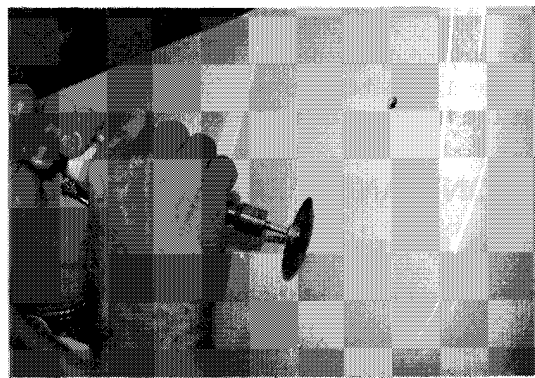

Figure 5-2
2. If damaged area has ragged edges, cut or grind away all loose material. Undercut perimeter of gouge or hole to promote adhesion (Figure 5-2). Sand all the area to be repaired with 40 grit sandpaper. Apply less pressure as you get closer to damaged area.